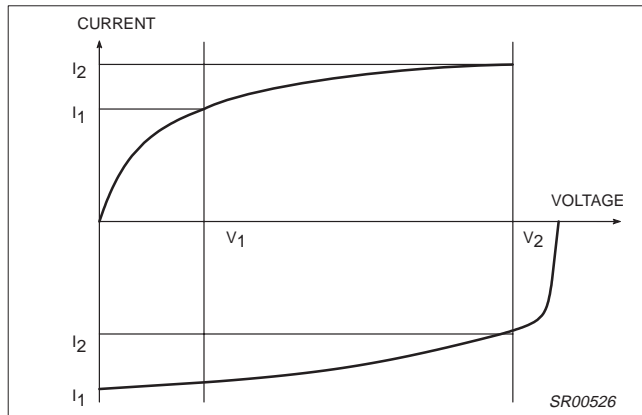

Figure 3. Relative Output Current Variation
- The relative output current variation is defined thus: $\frac{\Delta I_{OUT}}{I_{OUT}} = 2 \cdot \frac{(I_2 - I_1)}{I(I_2 + I_1)}$; WITH $V_1 = 0.7V$, $V_2 = V_{CCCP} - 0.8V$ (see Figure 3).